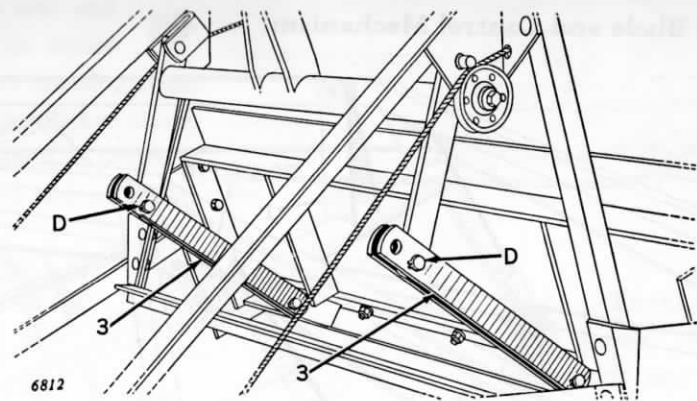

Figure 18—Link Straps Installed
3. Now connect the two lift arms of the lift shaft assembly to the blade by use of the four link straps and pins (in box). Hole "D" (Figure 18) is used for the average height drawbar; for extremely high drawbars, the upper hole is used.